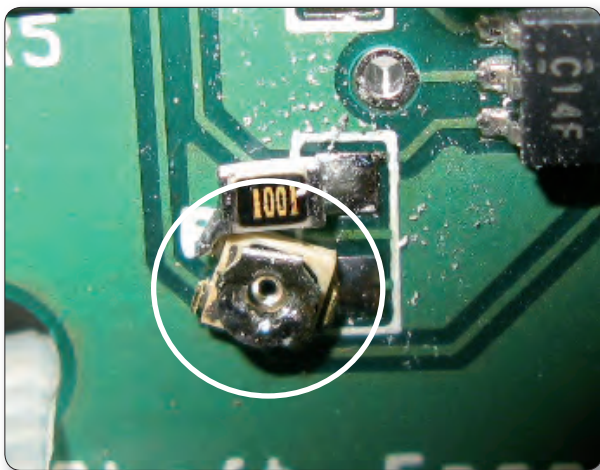

Figure 13.3
i. If the sensor board must be adjusted, we highly recommend contacting Baby Lock first to verify that such an adjustment is necessary. If it is necessary, there is a tiny potentiometer located near the bottom center region of the board (Figure 13.3). A tiny jeweler’s screwdriver can be used to adjust the potentiometer. Make very small adjustments and then verify by turning the hand wheel until all of the speed segments of the encoder result in a pulse on the “Speed” LED on the board. Double-check this by running the “Speed” test within “Diagnostics” once more.